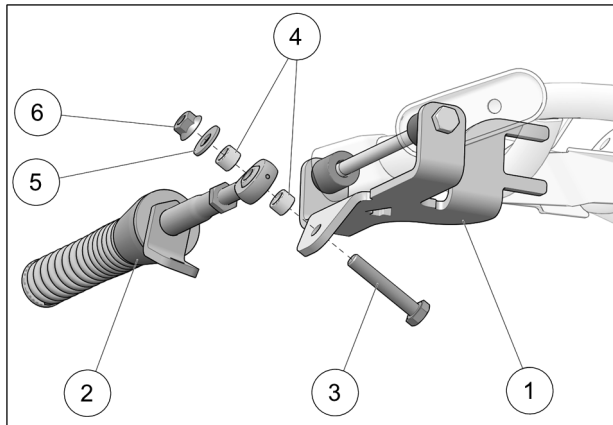

Fig. 10
10. Attach stabilizing rod (2) to anchor bracket (1), using bolt (3), spacer bushings (4), flat washer (5) and nut (6). Torque to $70 \text{ N}\cdot\text{m}$ [$52 \text{ lb}\cdot\text{ft}$]. See Fig. 10